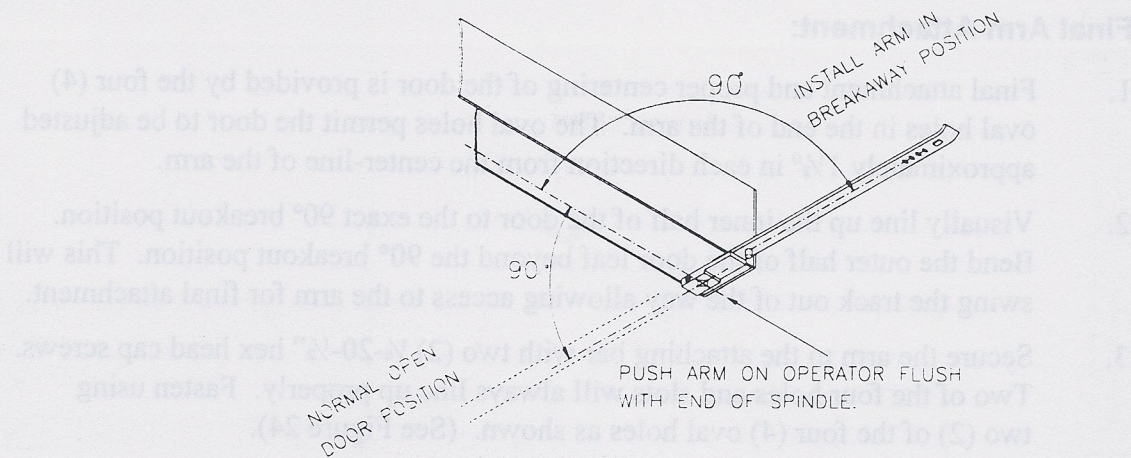

Figure 22: Installing the 10200 arm onto the spindle.
3. Keeping this in mind, determine which is the breakout position and install the arm pointing in that direction as shown in Figure 22.